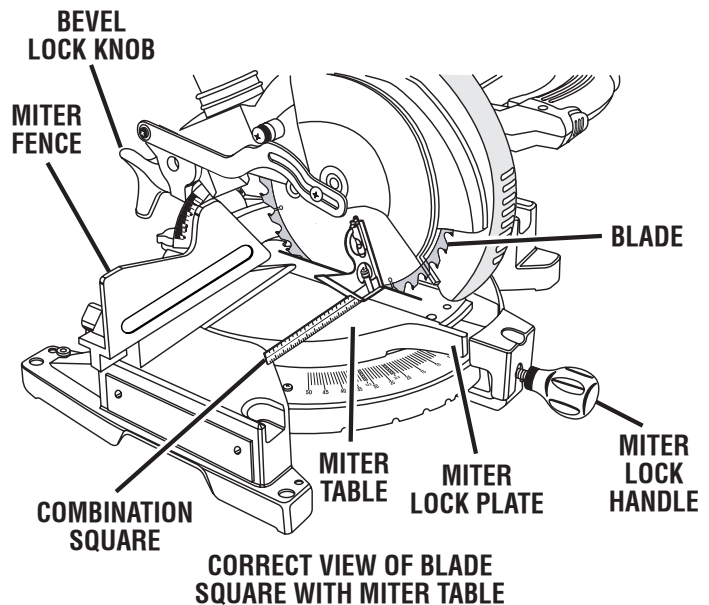

Fig. 19
See Figures 19 - 21.
- The edge of the square and the saw blade should be parallel as shown in figure 19.